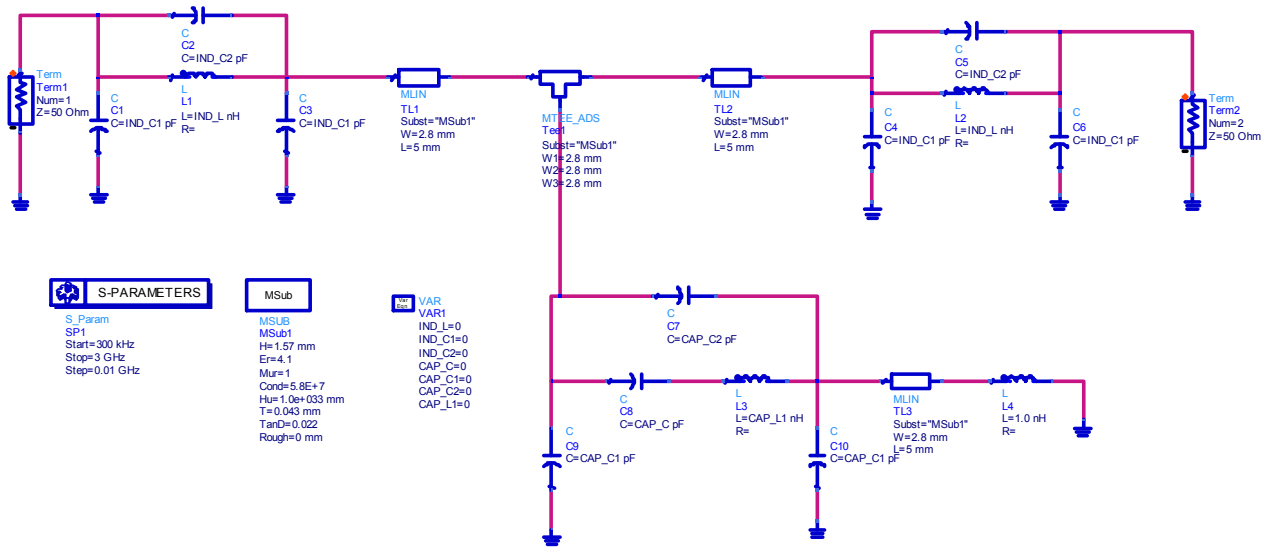

Figure 1: Complex low-pass filter schematic
3. Construct the circuit schematic shown Figure 1 below and save the design as **lpfckt2.dsn**. This includes parasitic element models for both inductors and the capacitor (as examined in a previous lab session this semester) as well as the microstrip transmission line segments and junctions. The following table gives the element values for the different inductor and capacitor values that may be used for the experiment. Enter these values appropriately in the VAR block.